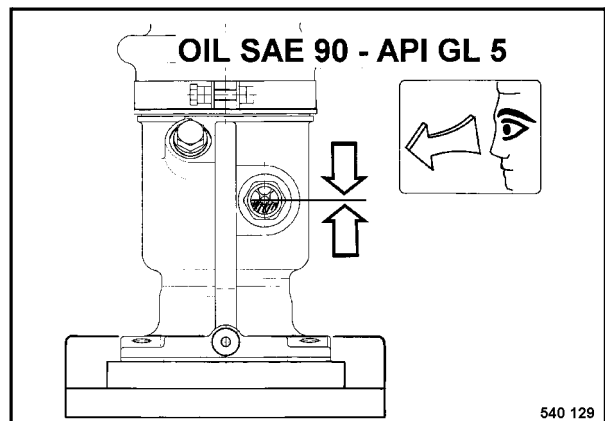

Fig. 6
- Clean the inspection glass (Fig. 6) and check the oil level.